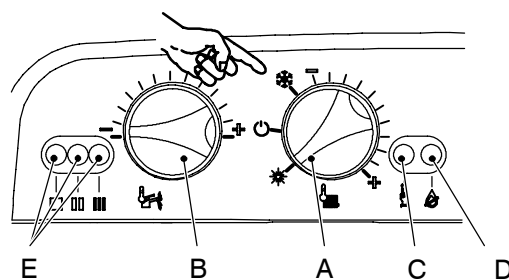
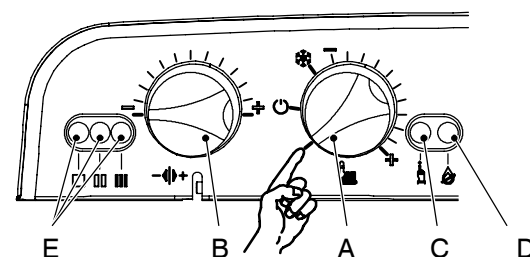

Fig. 42
Fig. 43
- 4 Turn the boiler ON positioning the function selector knob A as indicated in Fig. 42 (M96.24SM/..., M96.28SM/..., M96.32SM/...) or Fig. 43 (M96.28SR/..., ). and ensure that the timer selector switch and room thermostat, if fitted, are set to "heat demand".